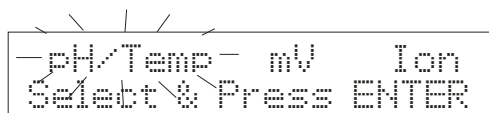

Figure 9
5. If this is the first power up since the power was connected, you must indicate desired measurement mode. Use **>/CAL** to select. The mode selected will flash. See **Figure 9**. Press **ENTER** to confirm. The meter then enters measurement mode.